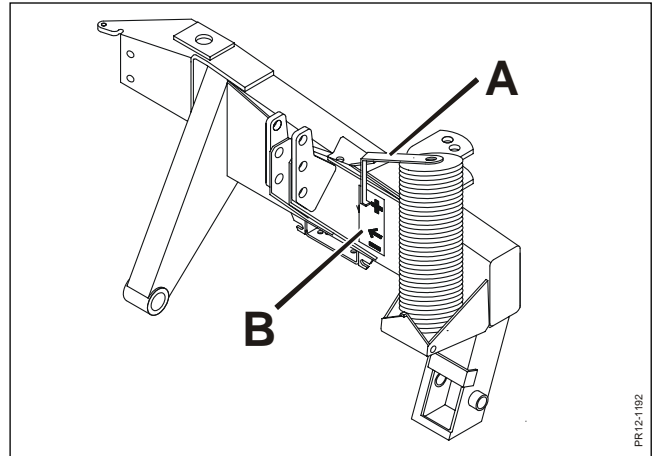

Fig. 3-8
- Fig. 3-8** Adjust the double-acting hydraulic outlet to floating position. Raise/ lower the link arms until the machine is at the correct working height. This is obtained when the indicator **A** is at level with the arrow on the transfer **B** as described in chapter 2.